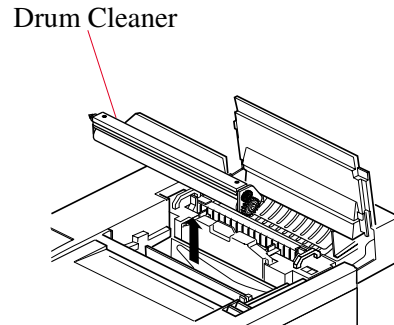

Fig. 5-25
1. Holding the knob and band located on the top of the drum cleaner, remove the drum cleaner. Pull both ends of the handle upward, and then remove the drum cleaner shaft from the bearing at the engine sides (see Fig. 5-25).